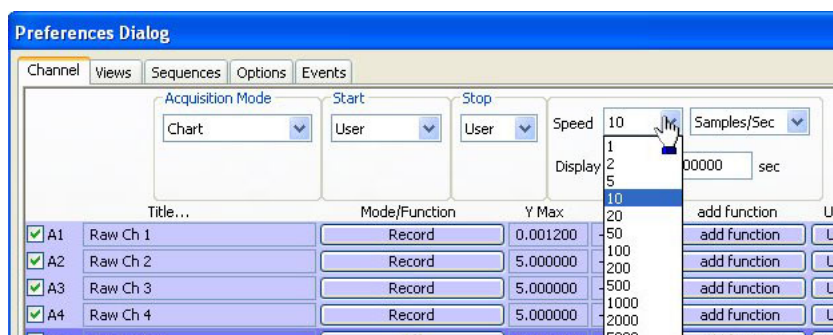

Fig. 37—Select number of samples from Speed drop down lists
1. To change the basic default settings, open the **Preferences Dialog** window (Fig. 37) by selecting the **Edit** menu and choosing **Preferences** (Right).
3. Use the two **Speed** drop down boxes to select the number of samples (first drop down box) per unit of time (second drop down box). See **Fig. 37**. The sampling rate should be chosen to record fast enough to create a minimum of two to three points of data for the fastest signal expected when recording. For use with the **TBR4100/1025**, WPI recommends setting the speed between 10 and 20 samples per second.
4. Set the **Display Time** to 60.0 seconds (**Fig. 37**). The elapsed sampling time displays at the bottom of the default LabScribe main window. This value determines the amount of time viewable in a single data frame, or the “width” of the display window.